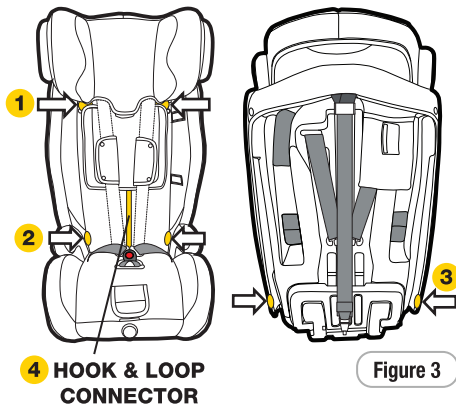

Figure 3
**Step 2:** Unclip the press studs location 1 (refer Figure 3).
**Step 4:** Disconnect the 4 hook & loop connector located below the headrest/apron and remove the cover (refer Figure 3).